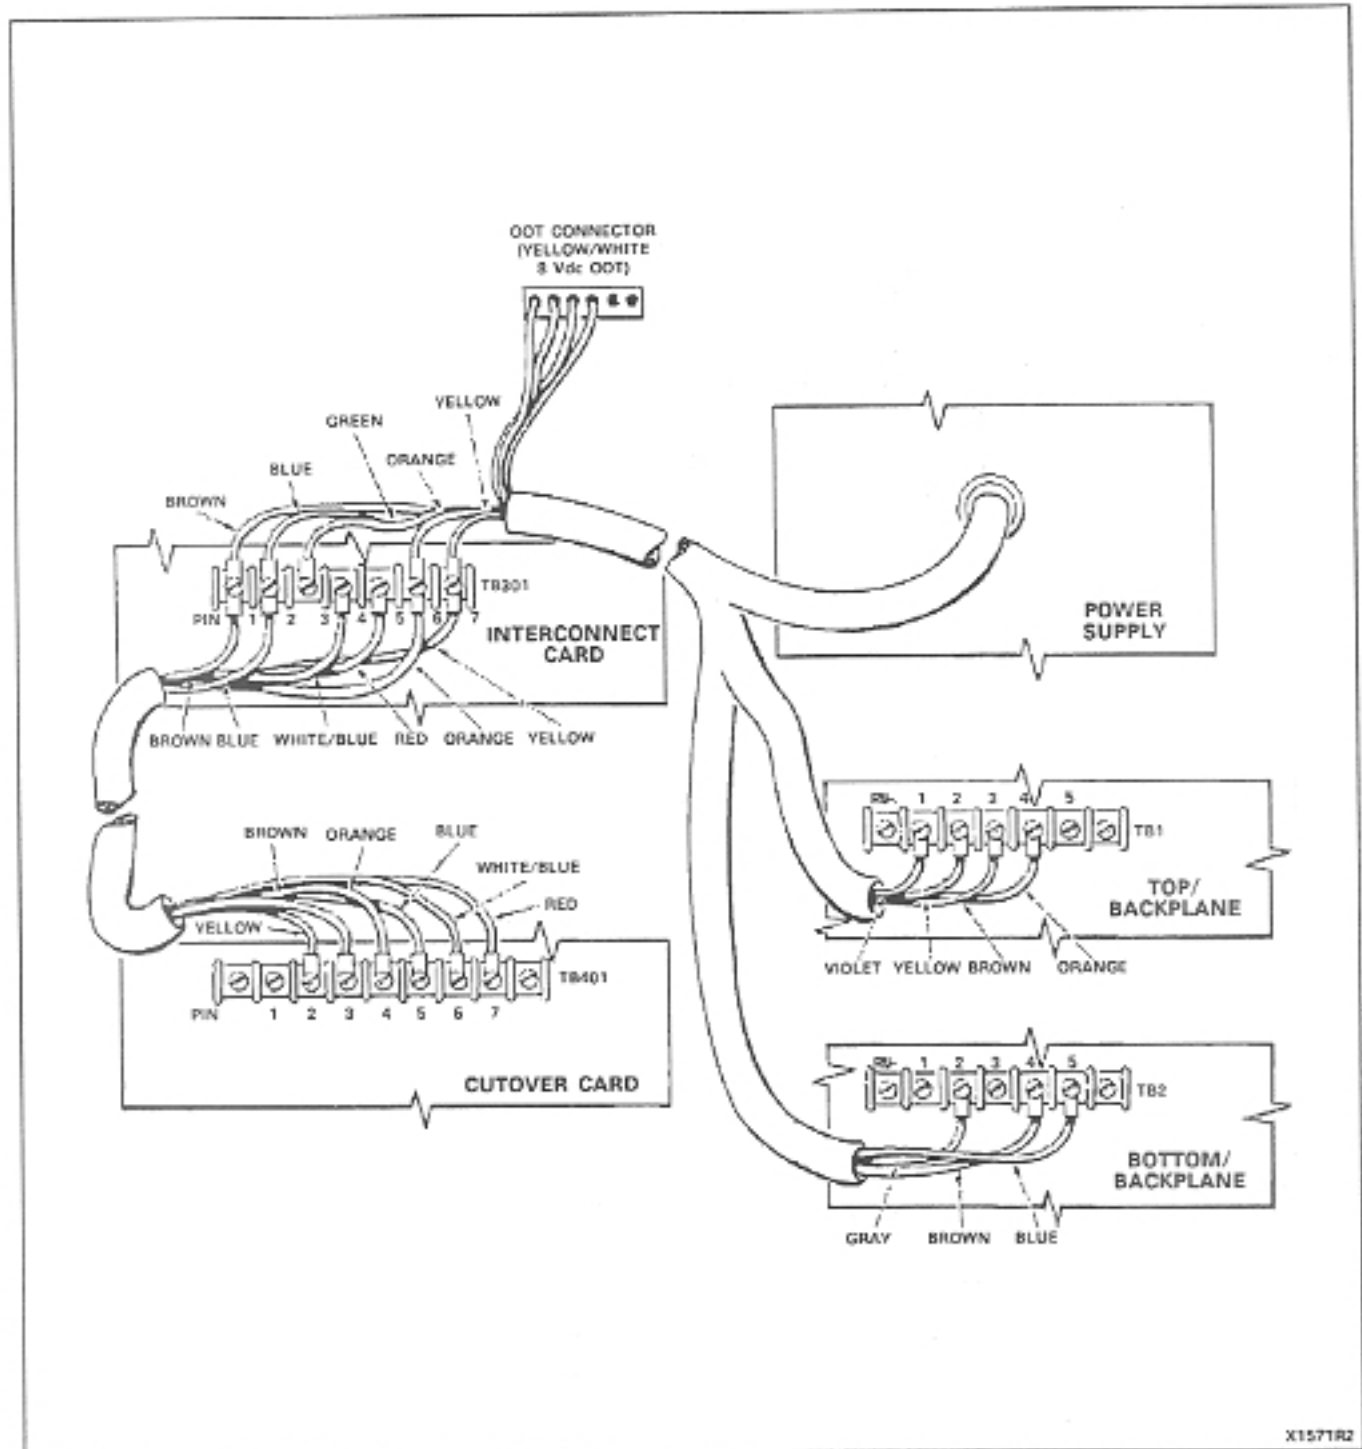

Fig. 512-2 Wiring Diagram
- (3A) Disconnect all terminal blocks on: Power Fail Transfer cards, Interconnect card and Shelf Backplanes (Fig. 512-2)